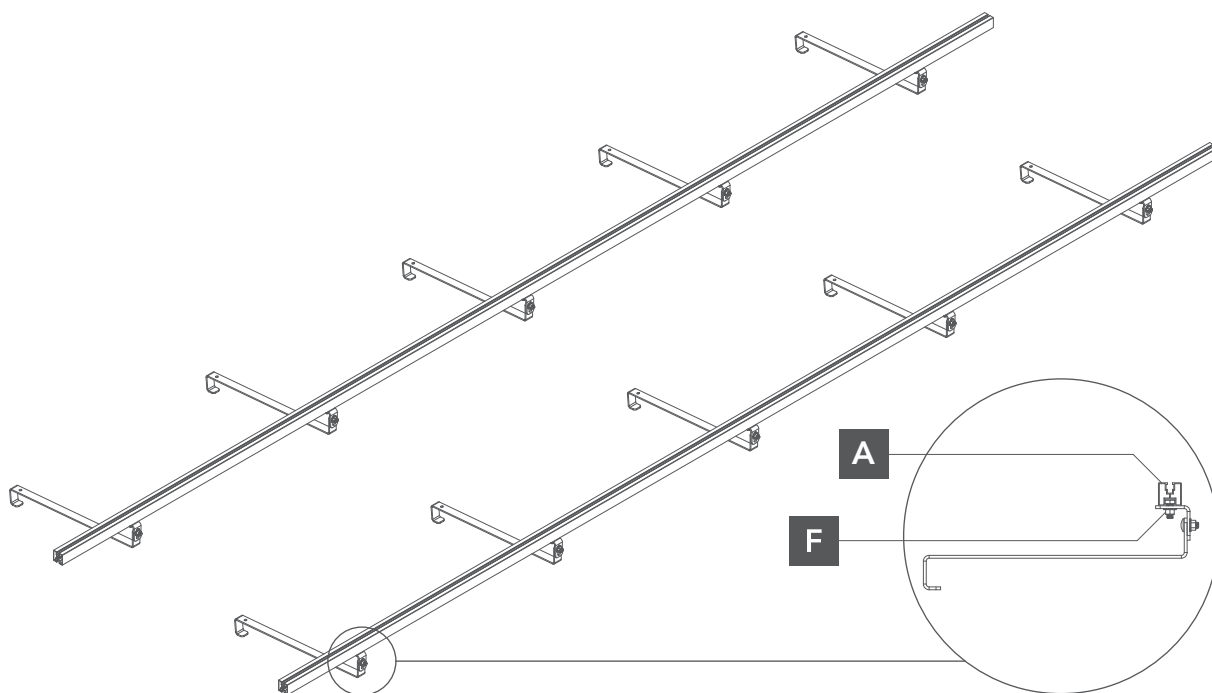

Fig. 6. attachment of the mounting rail to the roof fastening.
- 4** After that, the DIN 6923 M10x25 bolt should be passed through one end of the mounting rail, made to fit the roof bracket and fastened with the DIN 6923 M10 nut (Fig. 6).